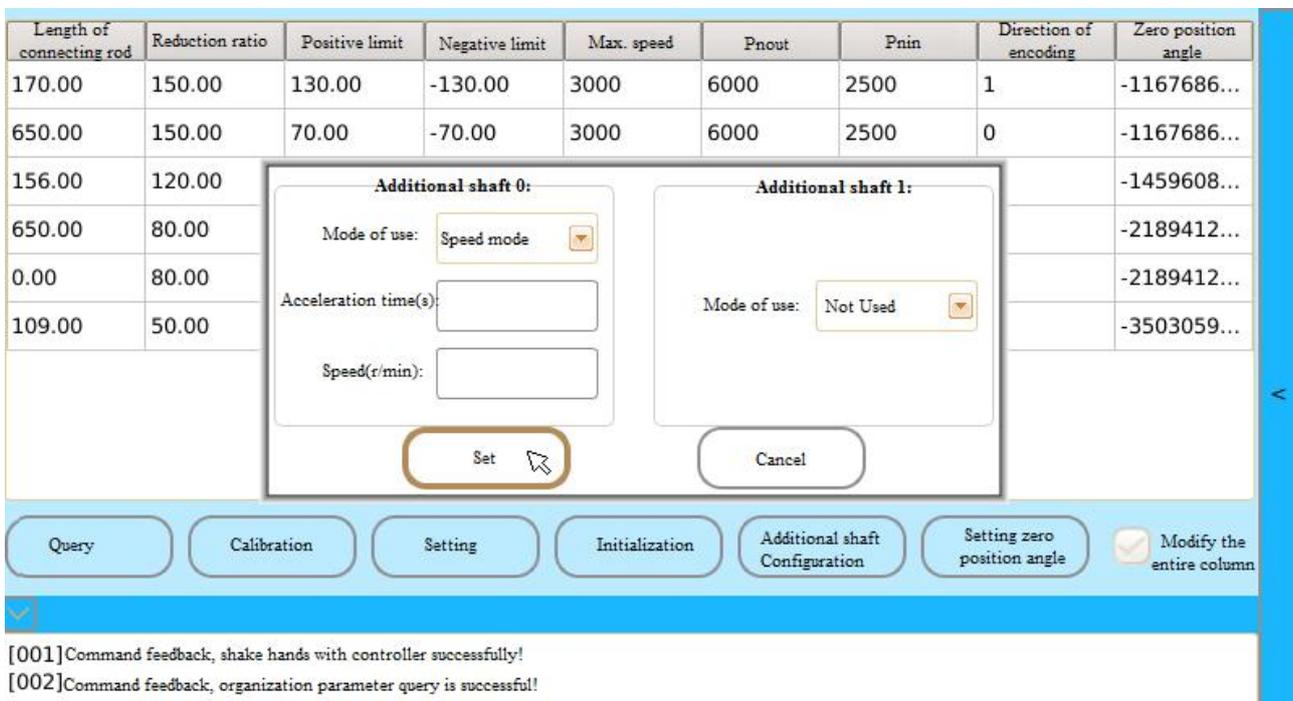

Fig. 3.7 Additional Shaft “Speed” Mode Setting
b. Speed mode: When the “Additional shaft” is set to “Speed mode”, it is necessary to set the “Acceleration time” and the “Speed”, as shown in Fig. 3.7.